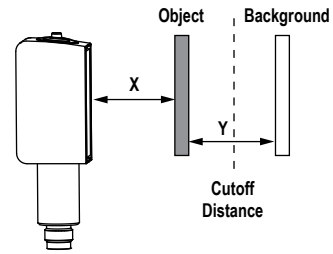

Figure 1.
6. Turn the adjustment potentiometer **counter-clockwise** half of the number of turns from step 5. This places the cutoff distance midway between the object and the background switchpoints (see Figure 1. on page 5).